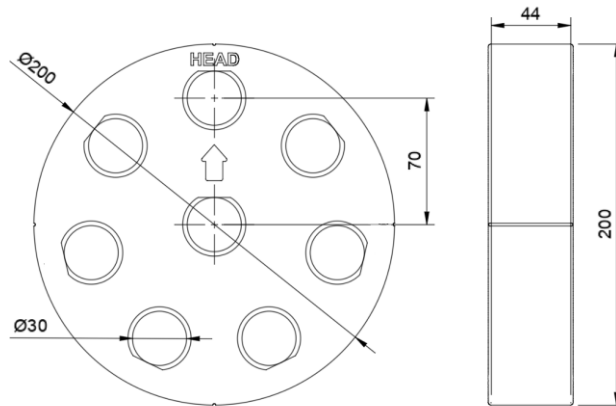

Figure 1: HD Phantom body schematic. All values shown are in millimeters. The additional 4 mm of phantom body mold depth is to account for epoxy shrinkage.
- 7 evenly space peripheral 70 mm from center (refer to Figure 1)